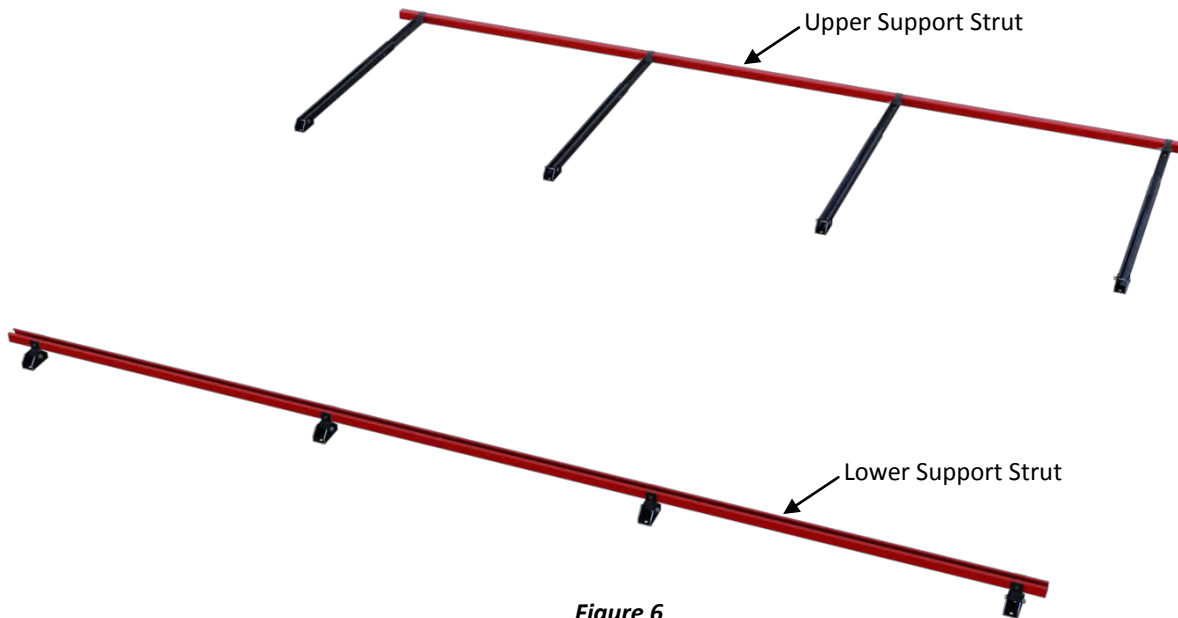

Figure 6
7. Swing Rear Telescoping Leg Assemblies with Upper Support backwards and lay flat on mounting surface as shown in Figure 6.